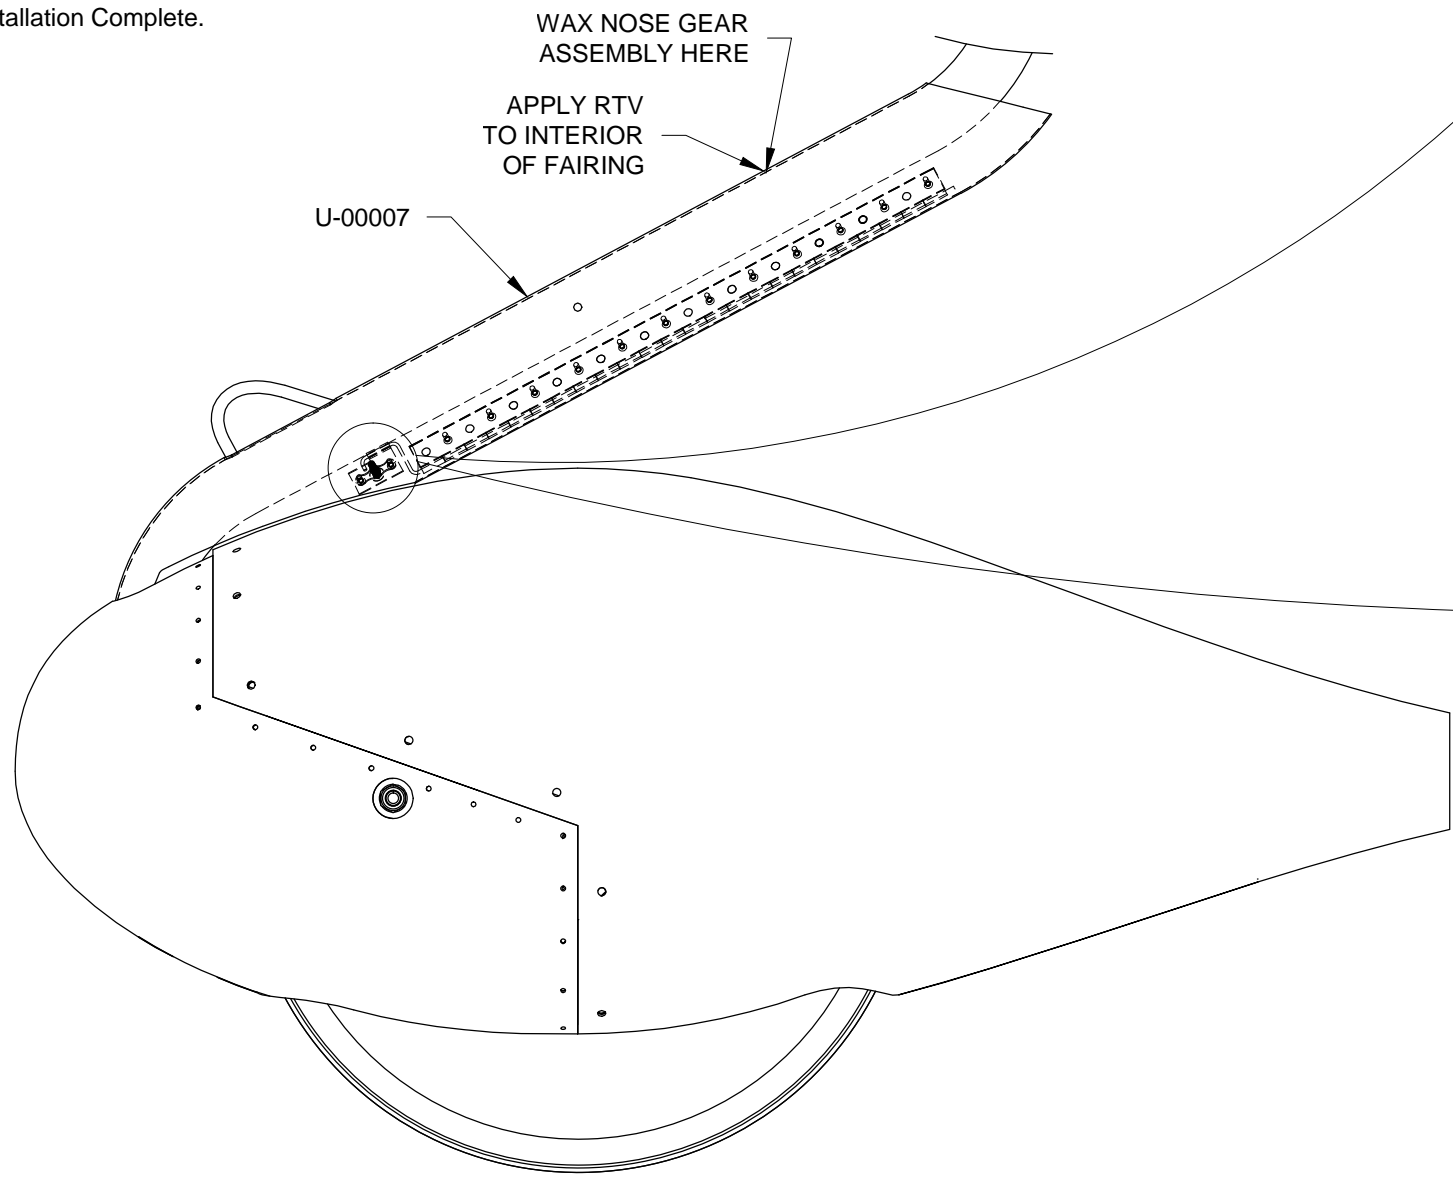

FIGURE 1: HINGE PIN RETAINER LOCATION
Final-Drill the nose leg fairing #27 for the screw called out in Figure 1. Install screw through nose leg fairing and into hinge pin retainer and check the length of hinge protruding from the other end of the nose leg fairing hinge. Trim pin as required.
Step 3: Remove the U-00007 Nose Leg Fairing and apply wax to an approximately 1 inch diameter area of the WD-1201 Nose Gear Assembly as shown in Figure 1. Roughen the inside of the nose leg fairing in the same area. Apply a bead of RTV approximately 1/8 inch thick and 1/2 inch in diameter to the nose leg fairing. Install the nose leg fairing on the nose gear assembly. Allow to cure.